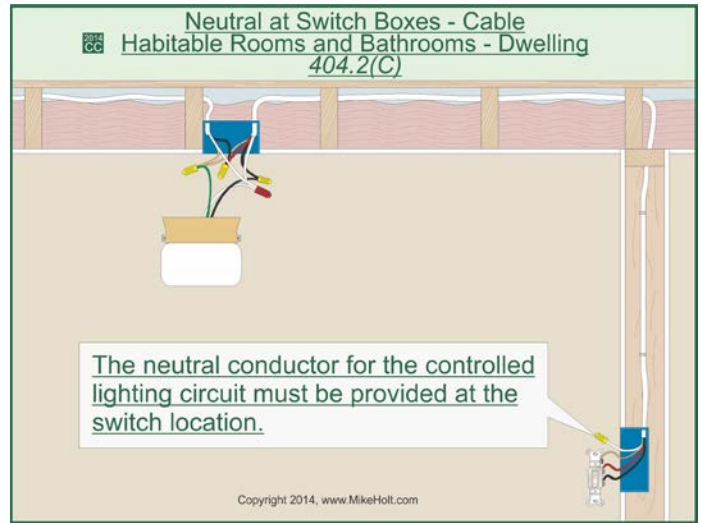

Figure 404-5
(C) Switches Controlling Lighting Loads. Switches controlling line-to-neutral lighting loads must have a neutral provided at the switch location, other than in the following locations: Figure 404-5